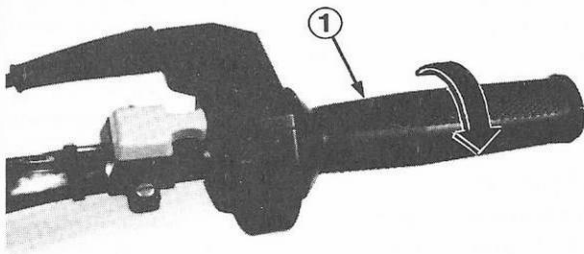

Fig. 20 ① Throttle Twist Grip
5. Open the accelerator twist grip partially (Figure 20).
3. Release brake pedal pressure and accelerate by turning the throttle twist grip slowly as shown in figure 20.